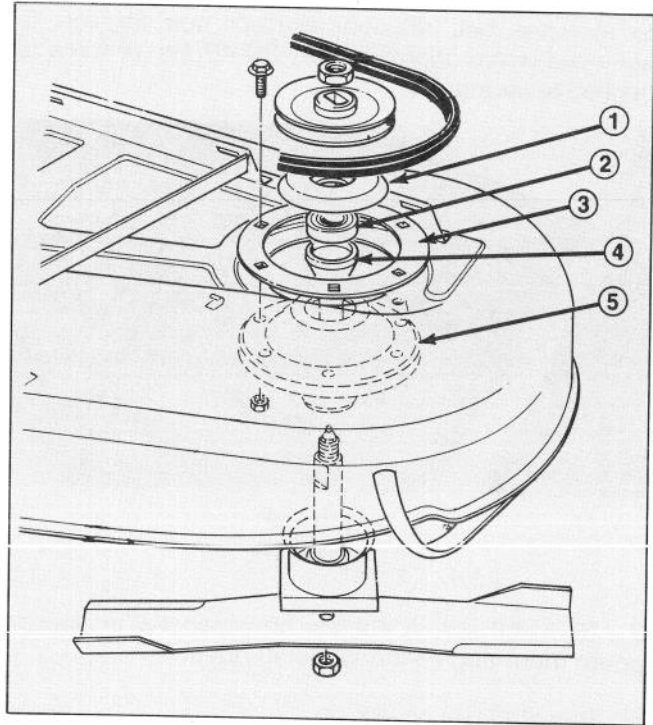

Figure 21
6. Remove dust cover to expose bearing and spacer in spindle housing (Fig. 21).
10. Slide pulley end of spindle assembly through hole in cutting unit. Mount spindle assembly in place with support ring and six flange bolts and nuts (Fig. 21).